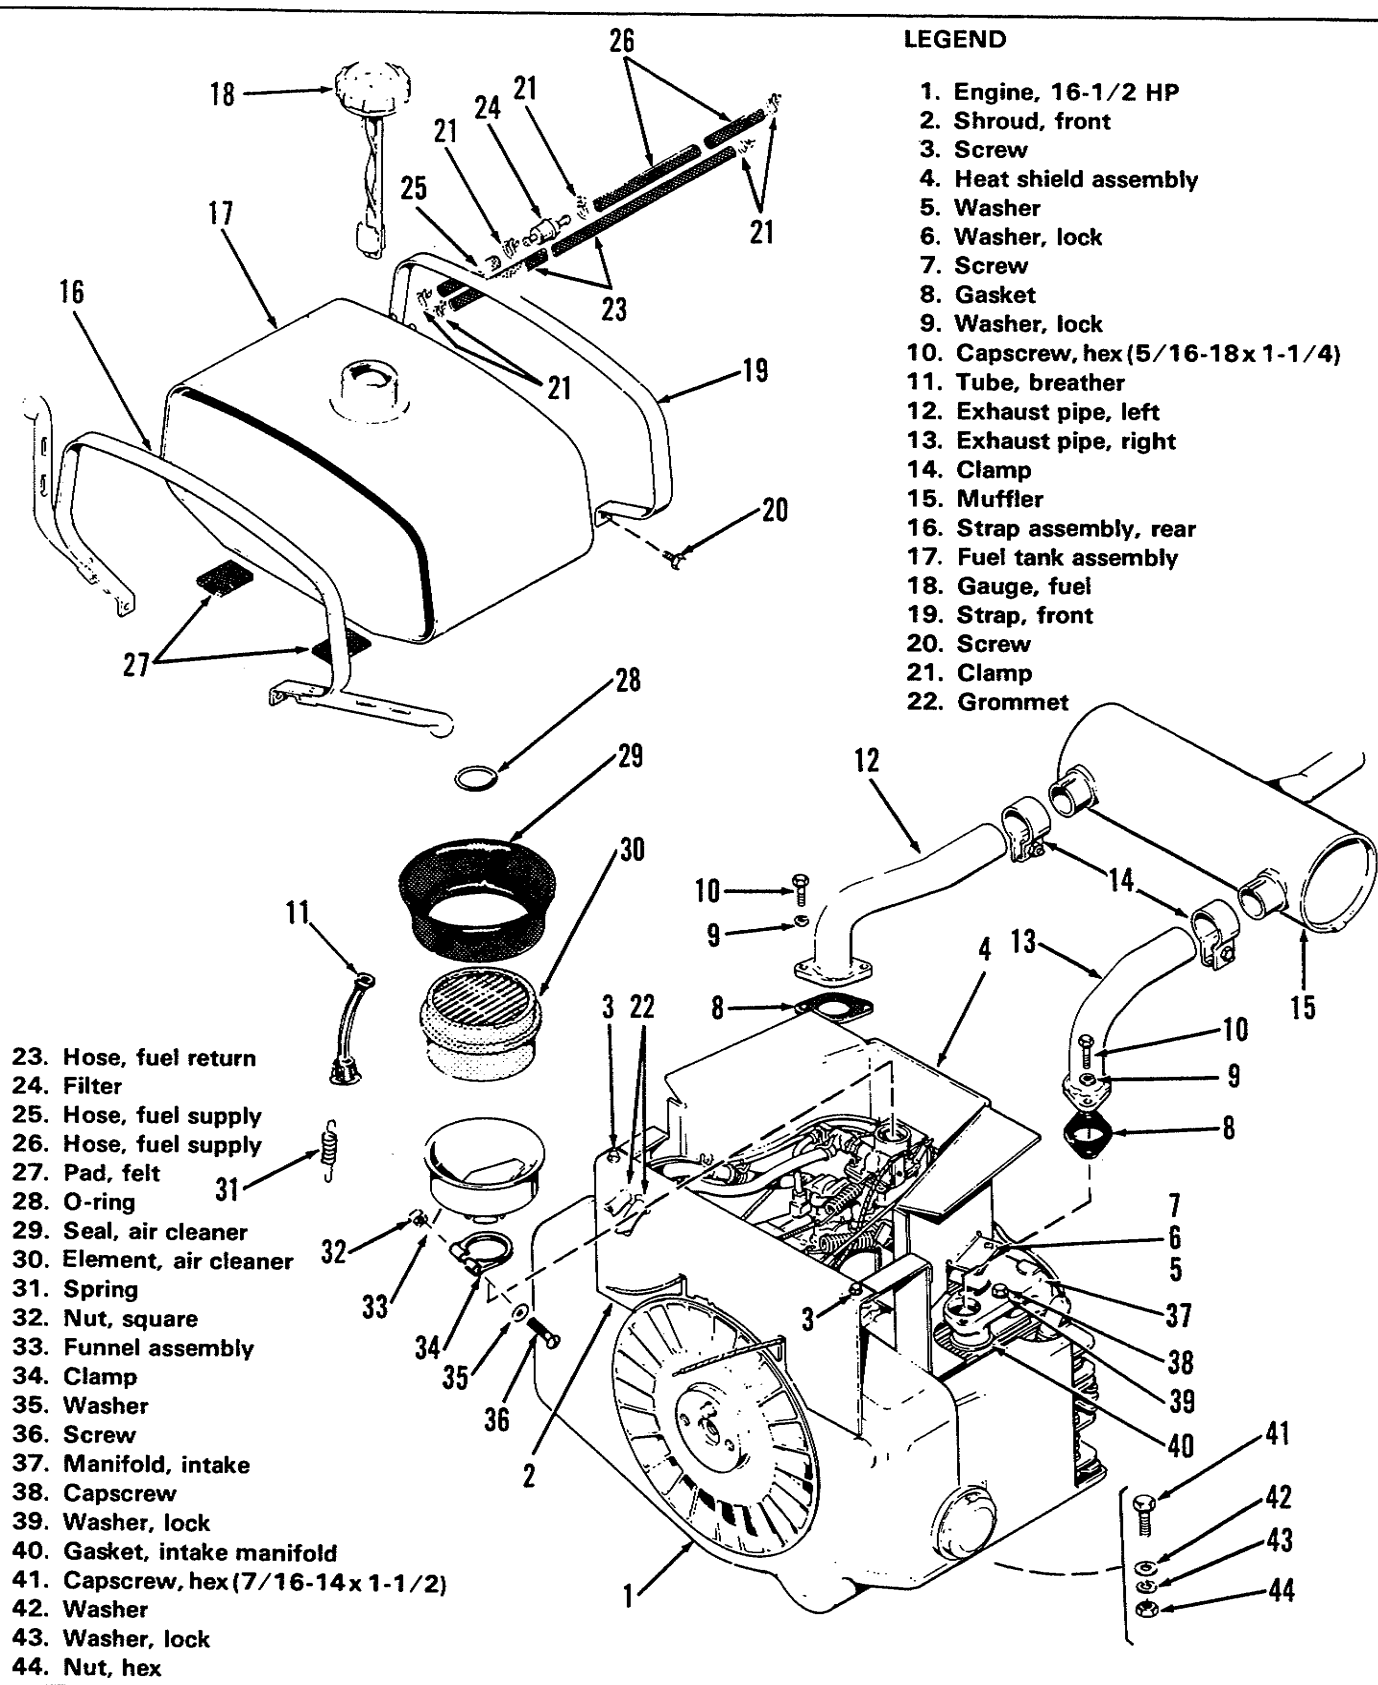

Figure 92. Fuel System Components (4040)
**Fuel Tank and Fuel Gauge Removal, Inspection, and Installation (Figures 92 and 93)**
- a. Remove the fuel gauge (18) from the tank, and empty the fuel into a suitable container.
- d. Remove the four taptite screws (20) securing the fuel tank mounting straps (16, 19).
The following procedures apply to the 4040 tractor (Figure 92).
### Fuel Lines and Filter (Figures 92 and 93)